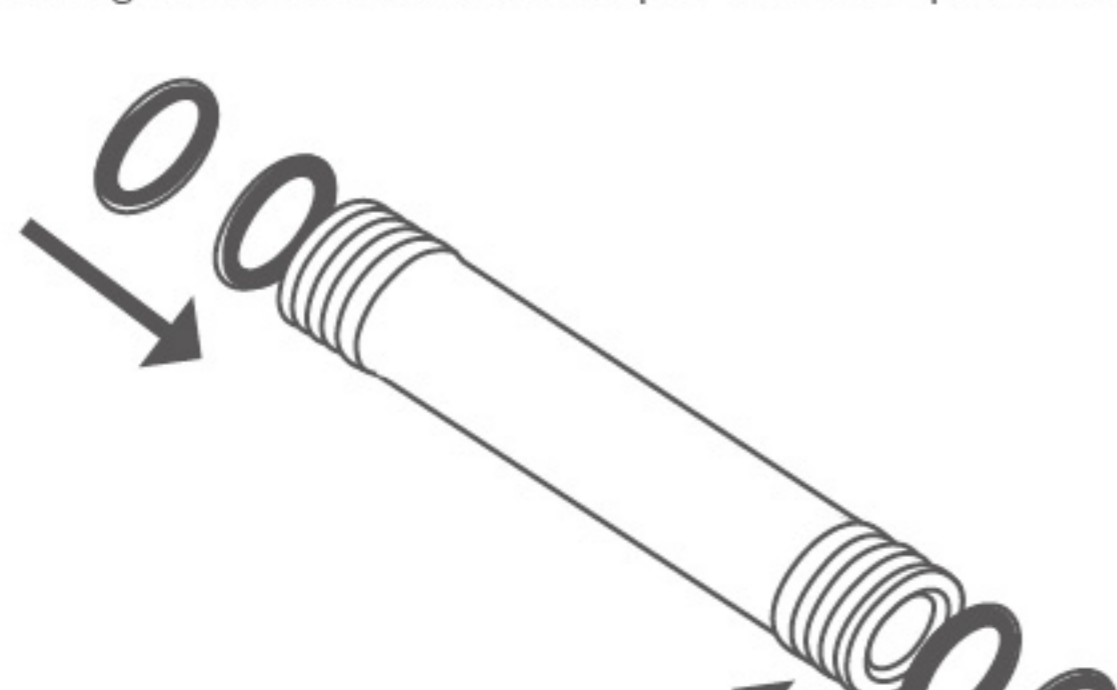

Figure 1
3. Attach O-rings to the membrane elements. Lubricate with glycerin during installation and carefully install to prevent scratches on the O-rings. Put the assembled adapter in a clean place before inserting the water pipe (Figure 1).